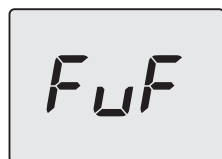

Figure 11.13
- 8 Allow the program to perform the entire process, at the end of which **FuF** (Full Finish) will be displayed (Figure 11.13).